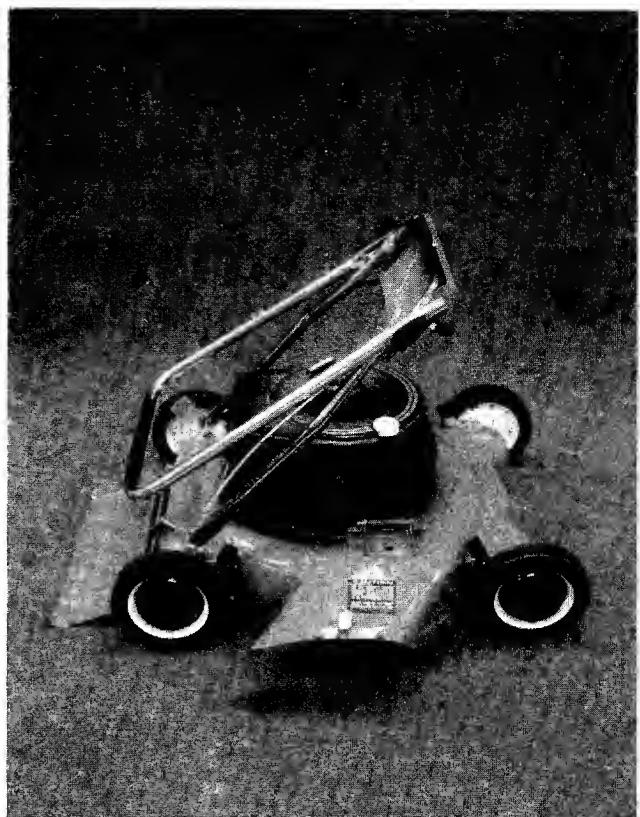

FIGURE 18.
4. Fold the upper handle back and down as shown. See figures 18 and 19.